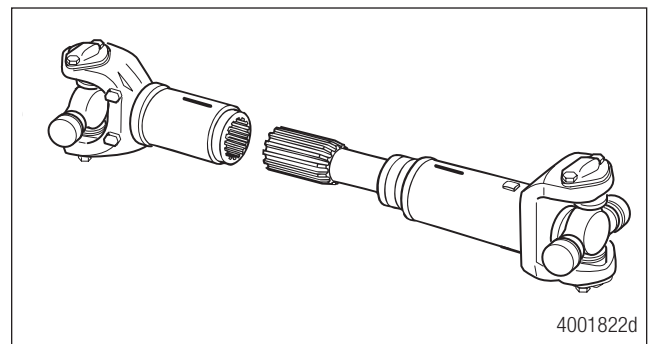

Figure 8.3
4. Pull the slip yoke and slip shaft sections apart. Figure 8.3.